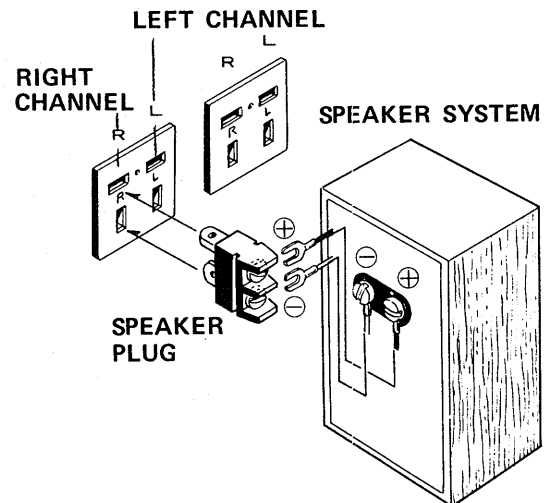

Fig. 5
- As shown in Fig. 5, connect the lead wires of the speaker system to the supplied speaker plugs. Be sure to observe the correct polarity and no short between \oplus and \ominus .
- For the second (third) set of speakers, use the B (C) speaker sockets. Connect in the same way as for the first set.